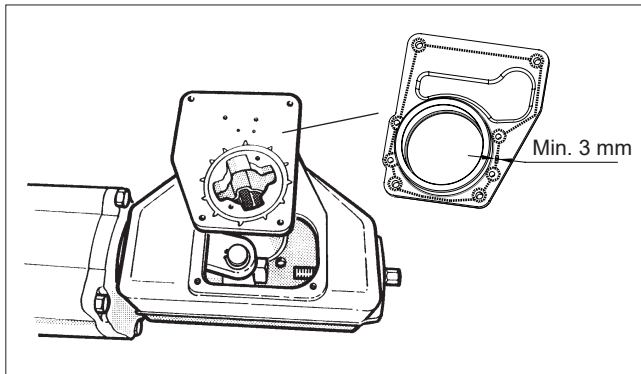
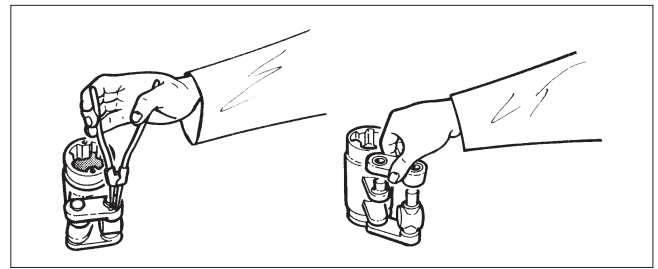

Fig. 14 Mounting the cover on the housing
Fig. 16 Dismantling the linkage
- Apply bearing unit screw (29) thread with a sealant, e.g. Loctite 225, and tighten the screw as in Table 2.
- Fasten the housing cover temporarily so that the secondary shaft bearings function but the linkage can still be seen, see Fig. 14. Note the grounding rings (3A, 4A).
- Clean housing and cover contact area. Apply proper amount (min. 3 mm diameter continuous path, as shown in Fig. 14) of sealant, e.g. silicone mass, to the interface between housing and cover, and fasten the cover.
- Remove lock rings (36) and support rings (37). See Fig. 16.
- Remove connection arms (4), ring (4A) and check the condition of the bearings (20, 21).
- Remove lever arm bearings (23), O-rings (17) and the grounding ring (3A).
- Install the grounding ring (3A), the lever bearings (23) and the O-rings (17). The grounding rings (3A and 4A) are needed to meet the ATEX requirements.
- Assemble the linkage and install in the housing. See Figure 16 for the correct position. Note the ring (4A).
- Apply sealant, e.g. Loctite 225, to the bearing unit screw (29) thread and tighten the screw as in Table 2.
- Install new pressure outlet valve (58) on to housing cover.
- Clean housing and cover contact area. Apply proper amount (min. 3 mm diameter continuous path, as shown in Fig. 14) of sealant, e.g. silicone mass, to the interface between housing and cover, and fasten the cover. See Table 2 for torque.
- Remove lever arm bearings (23) and O-rings (17) and the grounding ring (3A).
- Apply sealant, e.g. Loctite 225, to bearing unit screw (29) thread and tighten the screw as in Table 2.
- Install new cylinder base O-ring (19). Install the cylinder.